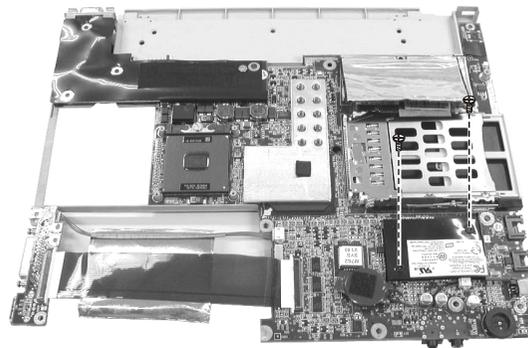

Figure 2-24 Remove the Modem/LAN card
4. Remove two screws to lift the Modem/LAN card. (See Figure 2-24 disassembly)
3. Remove one screw on the board, and two hexnut screws fastening the VGA port. (See Figure 2-24 disassembly)